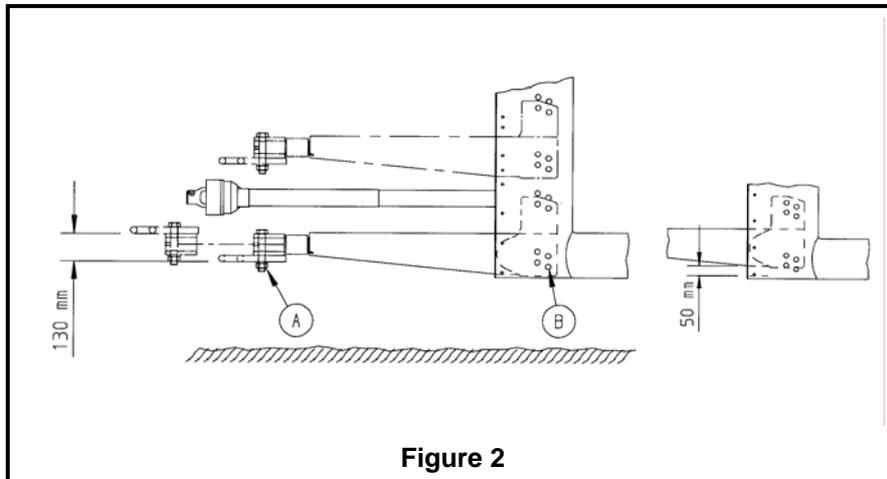

Figure 2
1. The towing eye and drawbar has a combination of height positions (figure 2) to give sufficient adjustment to suit most tractors. Measure the height of the hitch on the tractor and adjust the towing eye / drawbar accordingly.